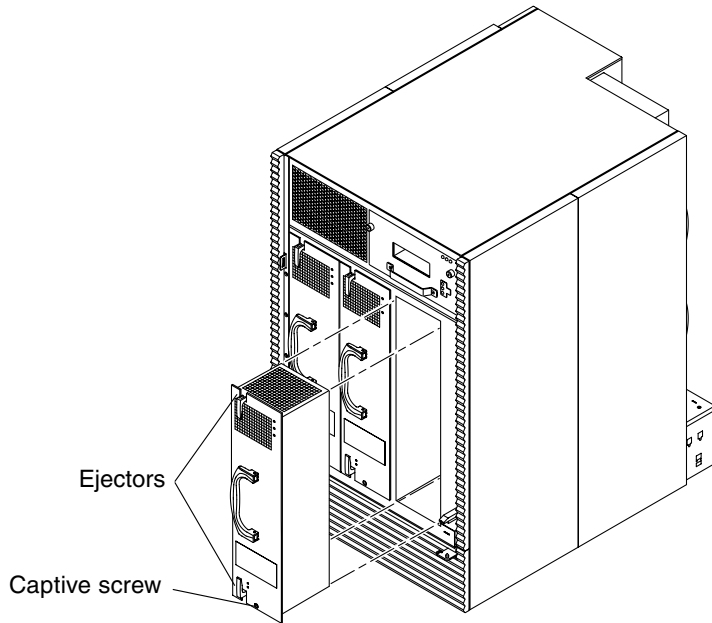

FIGURE 4-7 Removing or Replacing a Power Supply—Sun Fire 4800 System
3. **Loosen the two captive screws, one on the top of the power supply and one on the bottom of the power supply (FIGURE 4-7).**
3. Hold the power supply vertically, with one hand gripping the bottom of the unit, and the other hand gripping the handle, (FIGURE 4-7) slide the power supply into the chassis until it stops.